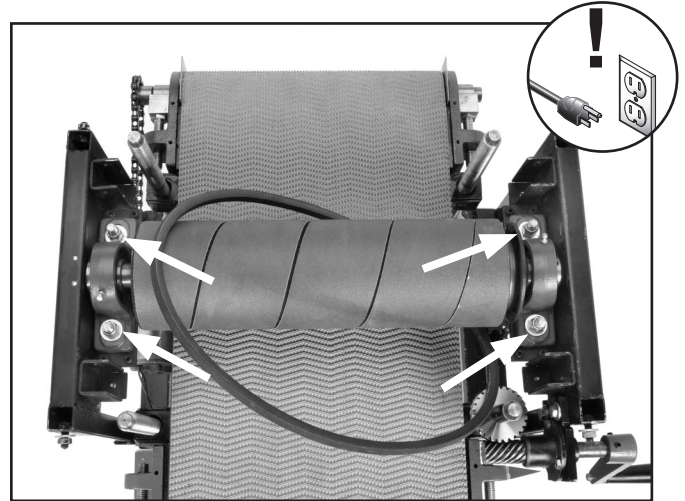

Figure 43. Location to remove sanding drum components.
- Remove the sanding drum (4 lock nuts and 4 flat washers) and V-belt (**Figure 43**).